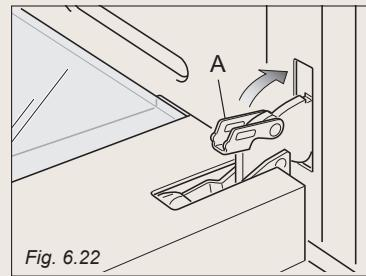

Fig. 6.22
4. Fully close the levers "A" on the left and right hinges, as shown in the figure 6.22.